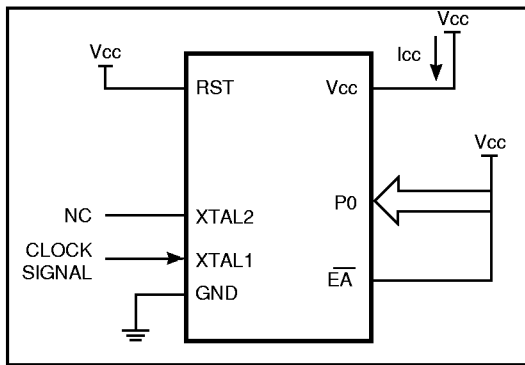

Figure 31. Active Mode
1. See Figures 31, 32, 33, and 34 for Icc test conditions.